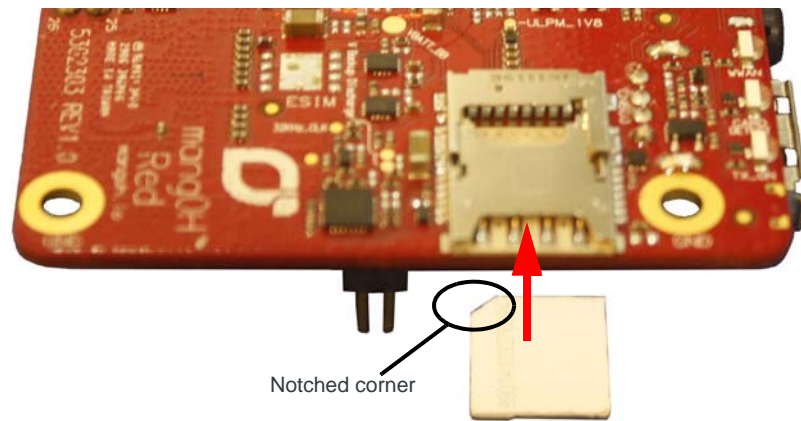

Figure 3-14: SIM—Inserting
2. Insert the SIM card with contacts face-down into the desired slot—note the location of the notched corner of the card in Figure 3-14.